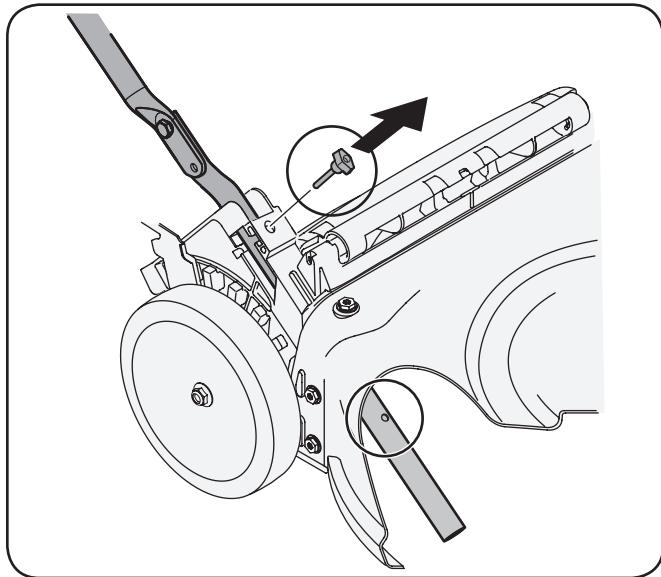
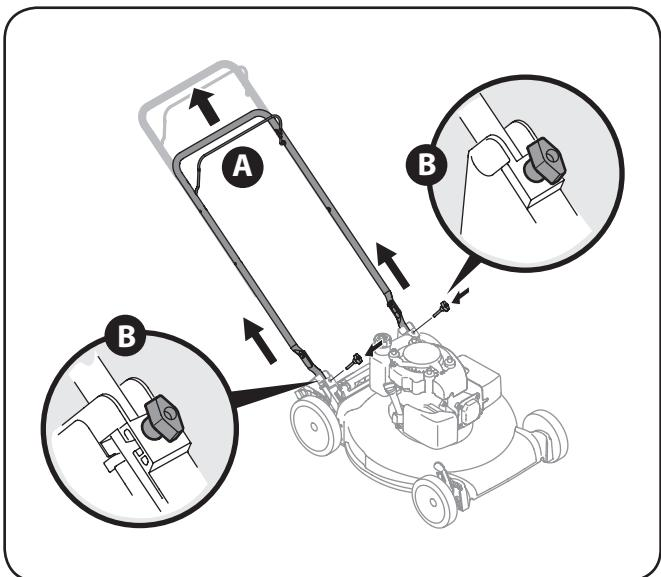

Figure 3-3
Figure 3-4
2. Remove the T-bolts from the handle brackets as shown in Fig. 3-3.
- Pull upward on the handle until holes in lower handle (shown in Fig. 3-3 deck cutaway) line up with holes in handle bracket. See Fig. 3-4.
- Insert the T-bolts removed earlier through the handle brackets and lower handle and tighten securely to secure the handle in place. See Fig. 3-4.